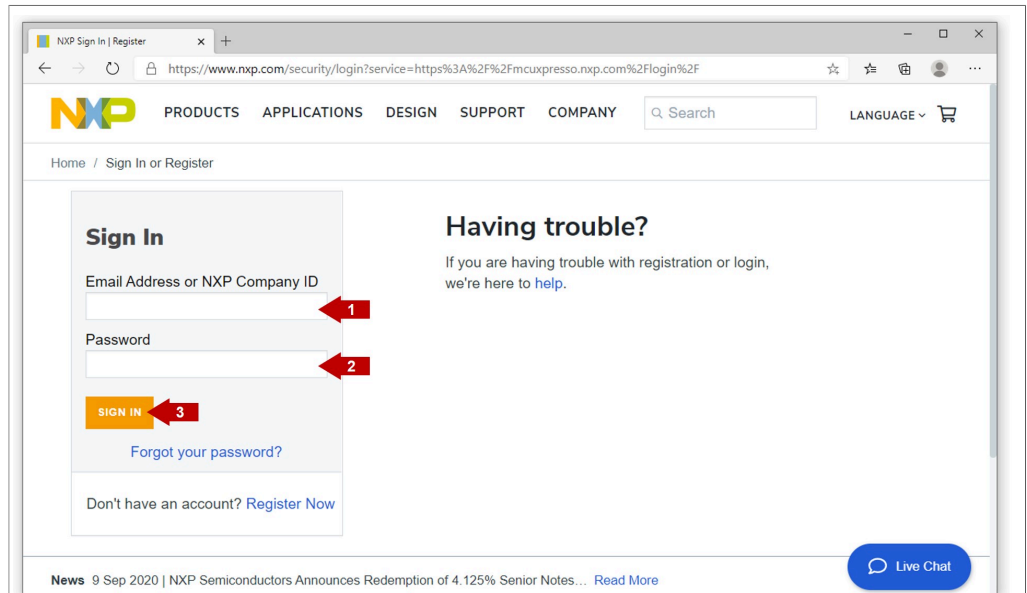

Figure 9. Log in
2. You will be asked to sign-in with your NXP account (if you don't have one yet, click on **Register Now**), type your credentials in the fields and then click on **Sign in** as indicated in Figure 9.